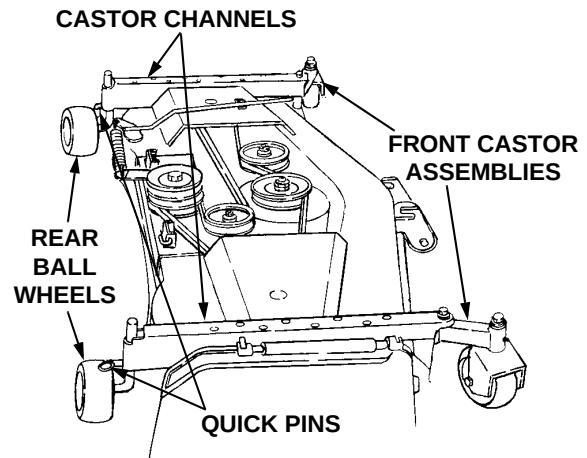

Figure 41
2. To ease sliding the deck out from under the tractor, reposition all four ball wheels as shown in Figure 41. To reposition the rear wheels; remove the quick pins, rotate the rear wheels 90°, and raise them to their uppermost position in the castor channels. Install the two quick pins in the rear holes of the castor channels to secure the rear wheels in this position. Temporarily remove the quick pins and rotate the front castor assemblies outward.